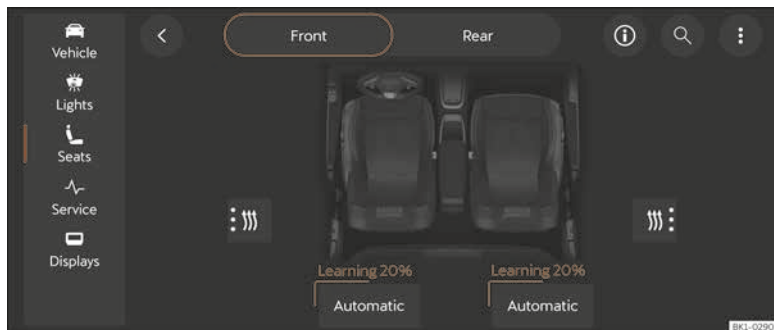

Fig. 106 Schematic representation: Seats menu
- To activate/deactivate the function go to the seat heating submenu, and press on the **Automatic heating** button below the image of the corresponding seat >>> Fig. 106.